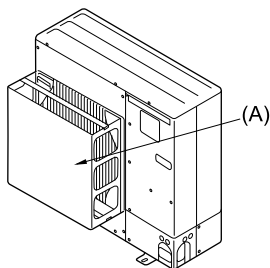
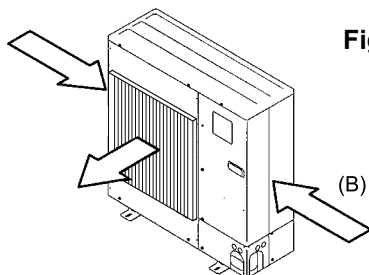

Fig. 2-4
Fig. 2-5
- (2) Install an optional air guide if the unit is installed in a location where strong winds from a typhoon, etc. may directly enter the air outlet. (Fig. 2-4)
- (A) Air guide
- (3) Position the unit so that the air outlet blows perpendicularly to the seasonal wind direction, if possible. (Fig. 2-5)
- (B) Wind direction